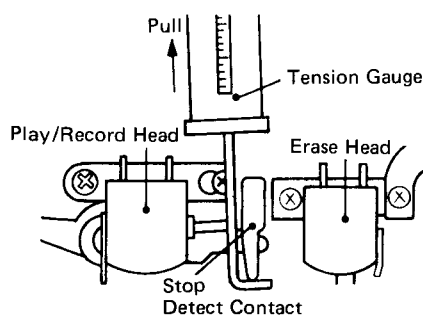

Fig. 16
1. Setting the mechanism vertically in the playback mode, the auto stop mechanism should function at the pressure of 45 to 65g when the tip of stop detect contact has been pulled upwards by a tension gauge. (Refer to Fig. 16)